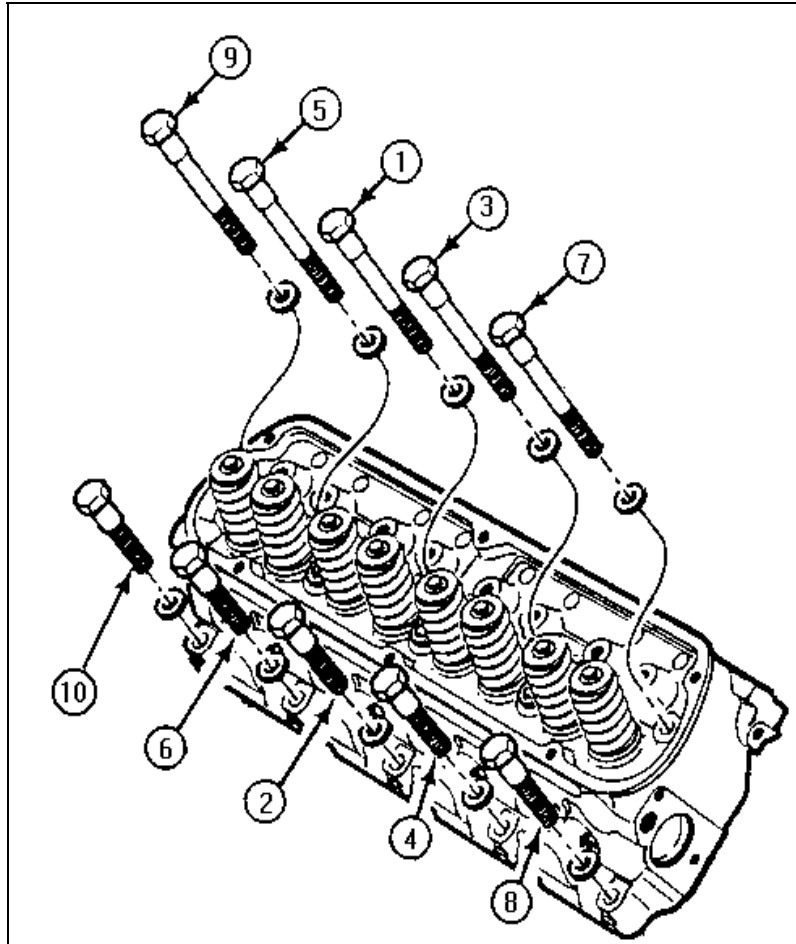

Figure 1 - Torque Sequence
STEP 4: Install the GT-40 heads on engine block and install mounting bolts. Torque in 3 steps using the shown in Figure 1. **Use the appropriate torque specs for your application. NOTE: Ford Racing Kit (M-6051-A50) and late model production applications use torque to yield bolts.**